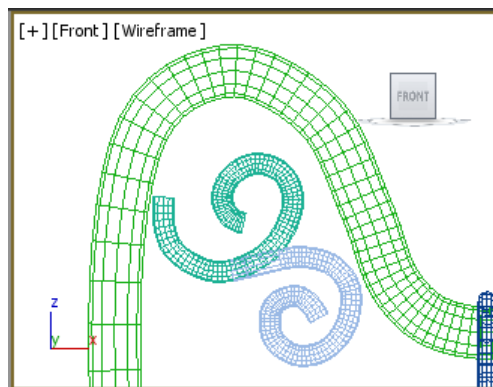

Figure 5-38 The second curve created
4. Repeat steps 1, 2, and 3 and create second curve, as shown in Figure 5-38.